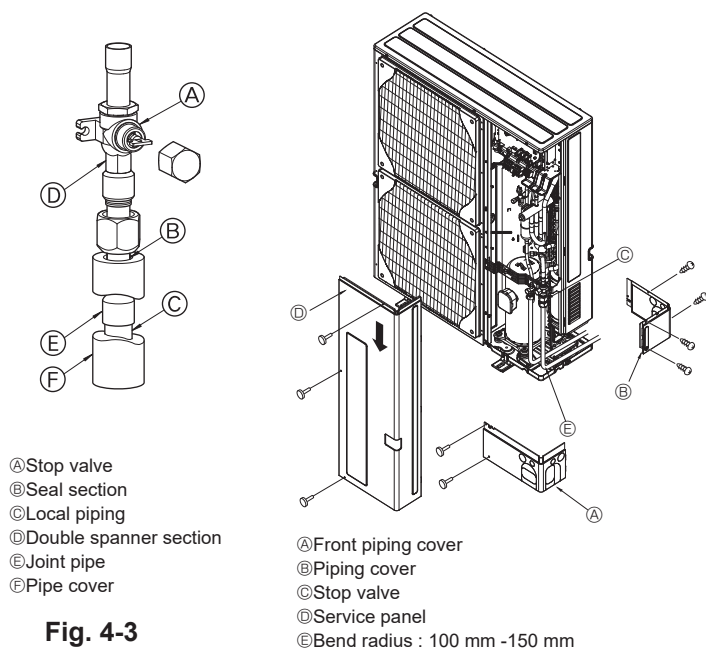
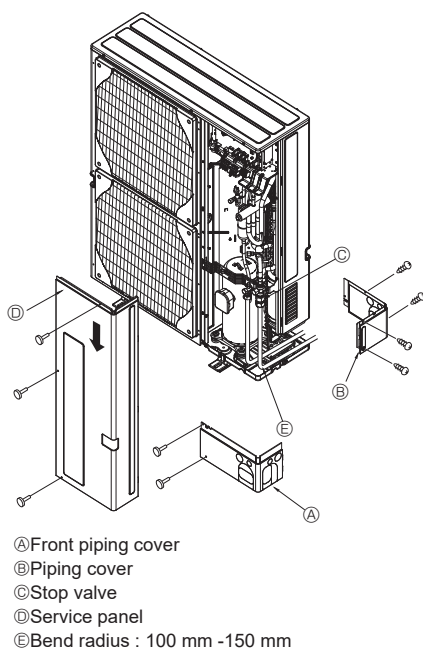

Fig. 4-3
Fig. 4-4
- ③ Use the following procedure for connecting the gas-side piping. (Fig. 4-3) (SHW230)
- 1 Braze the ⑤ Joint pipe provided to the outdoor unit using locally procured brazing materials and ⑥ Local piping without oxygen.
- 2 Connect the ⑤ Joint pipe to the gas-side Stop valve. Use 2 wrenches to tighten the flare nut. * If order is reversed, refrigerant leak occurs because of the part damaging by brazing fire.
4.3. Refrigerant piping (Fig. 4-4)